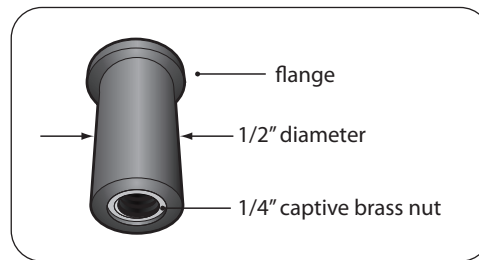

Fig. 3.4. Construction of a Well Nut
8. A Well-Nut is a bushing of tough Neoprene rubber with a flange at the top end and a captive brass nut mounted within the bore at the bottom end (Fig. 3.4). Tightening a conventional machine bolt or screw engages the captive nut thereby causing the bushing to expand outwards. This fastens securely to thinner RV roofs by bulging up and against the bottom surface of the roof (Fig. 3.7). If used in a blind hole in a solid surface material, the rubber will expand outwards to create a secure fastening (Fig. 3.8). The Neoprene and brass resist most environmental conditions.